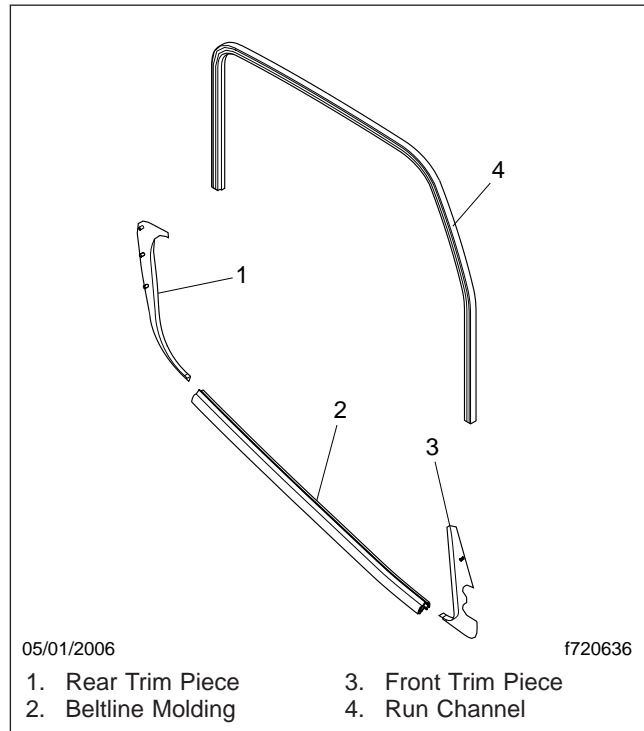

Fig. 4, Window Trim
11. Remove the window trim from the window frame. See Fig. 4.